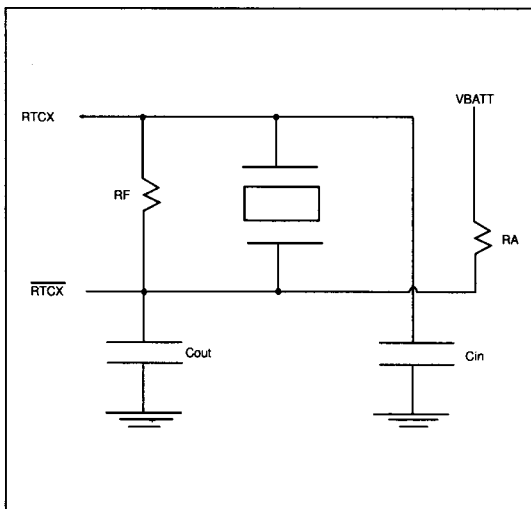
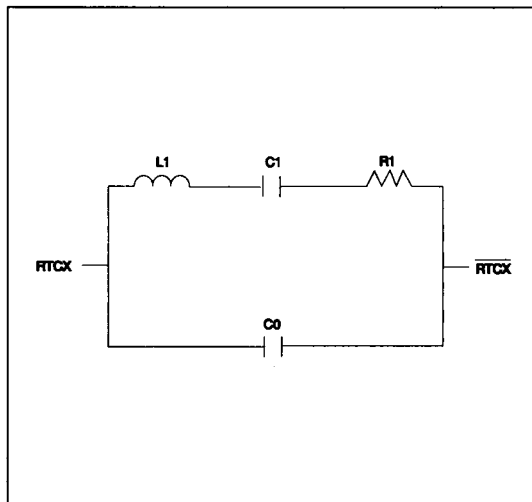

FIGURE 2-4. RTC CRYSTAL OSCILLATOR CONNECTIONS
FIGURE 2-5. RTC CRYSTAL PARAMETERS
**Time Base Oscillator Circuit** - The oscillator used to provide the time base for the RTC requires the external circuit shown in Figure 2-4 with the values listed in Table 2-3. The crystal to be used in parallel with the on-chip oscillator should be an AT-cut crystal, with a 32.768 KHz resonant frequency as described in Figure 2-5 and Table 2-3. When in battery backup mode, this circuit is still active, and providing the rest of the RTC with a valid time base.